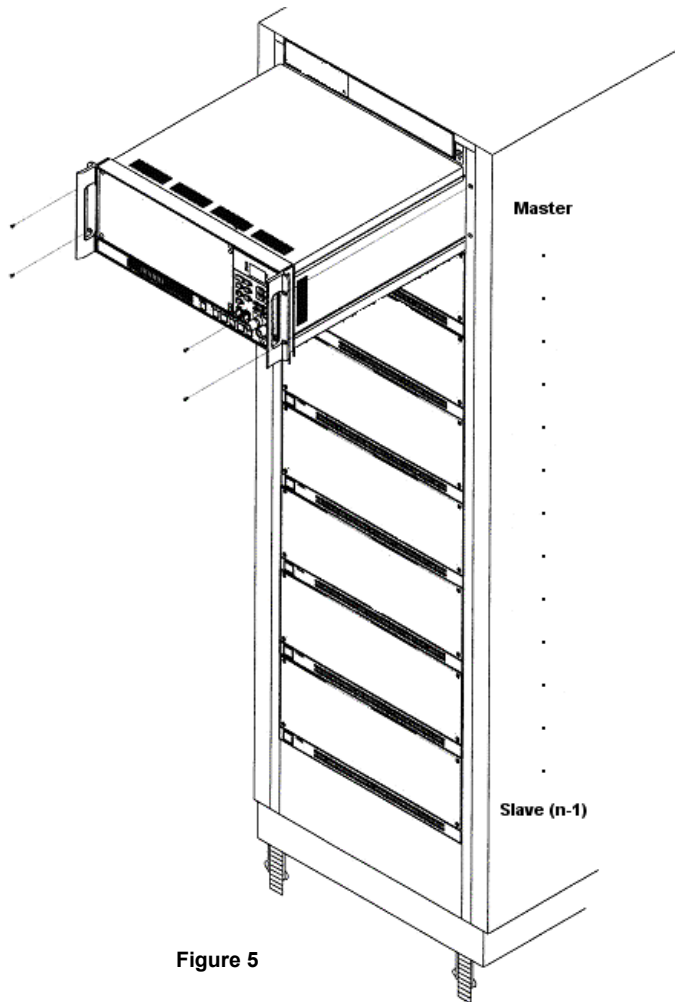

Figure 5
Figure 5 shows the Master load unit being mounted into the system cabinet with four (4) screws to secure it (two on each side). The required horizontal mounting rails for bottom support, are not shown.